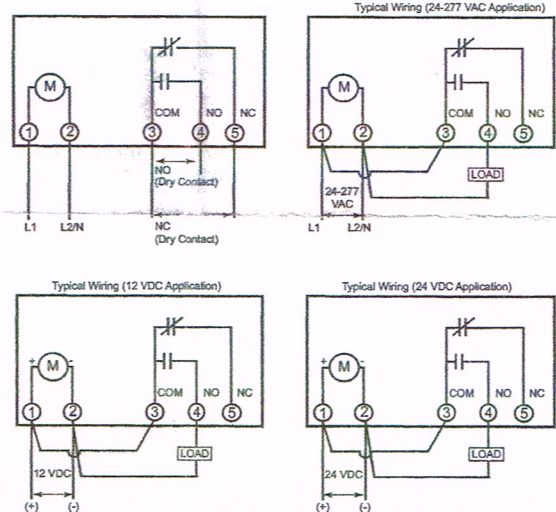

Figure 3. Connect FM1D14 Wiring (Front View Shown).
3. Connect the FM1D14 wiring. See Figure 3 for reference.